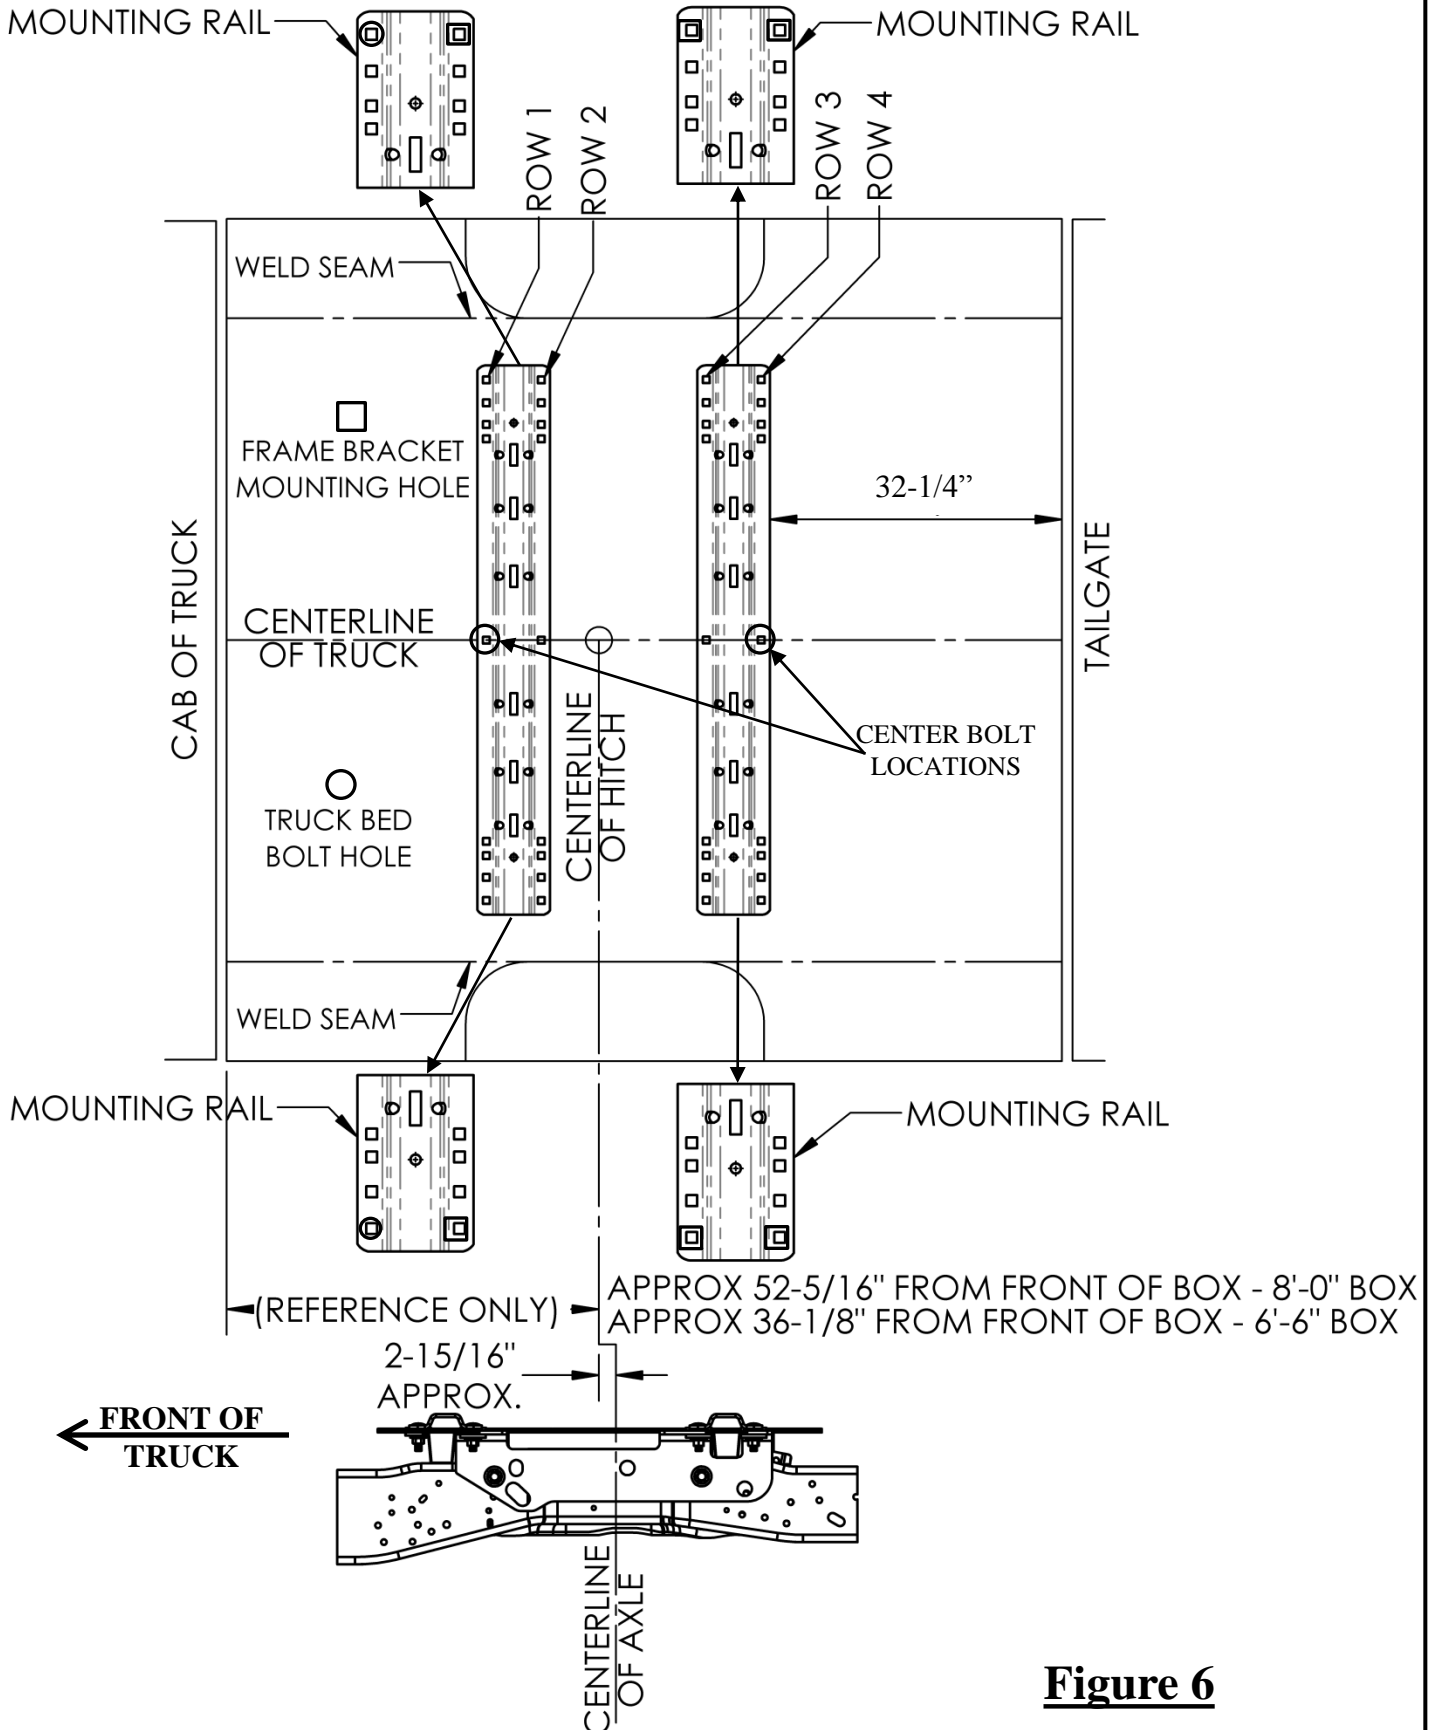

Figure 6
3. Place the rear mounting rail in the box of the truck. Using your tape measure, center the rail between the weld seams on the length of the truck box floor and the proper distance from the rear edge of the truck box as illustrated in Figure 6. See page 1 for mounting the brackets to the rails and brackets to the frame.
4. Mark and center punch the holes as per the illustration in Figure 6. Move the rail out of the way and drill each position with a 1/8" drill bit. **Warning: When drilling holes be aware of potential risks to vehicle components, such as brake lines and fuel tanks, and make appropriate safe guards to protect them from damage.**
7. Loosely install the frame brackets by aligning the brackets with holes in the frame. Insert M14 bolt and washer (2) into slots in the bracket and through the holes in the frame. Install the M14 nut with retainer (3) on the bolt. Snug the bolts. Do not tighten.